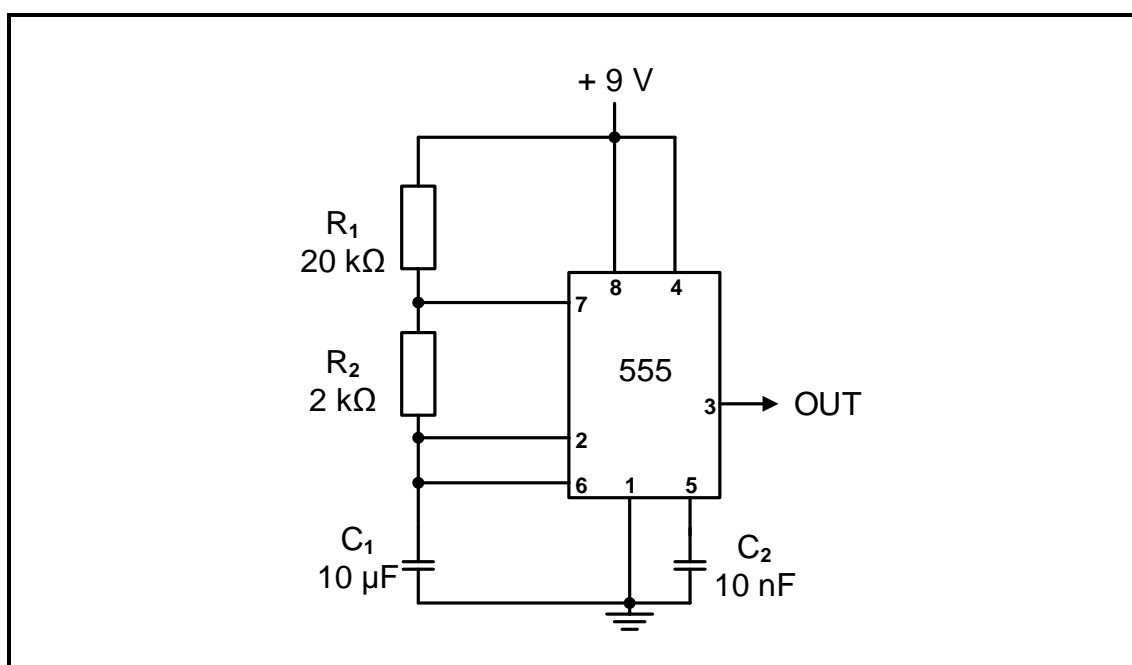

FIGURE 2.4: MULTIVIBRATOR
- 2.4 Refer to FIGURE 2.4 below and answer the questions that follow.
- 2.4.1 Identify the multivibrator in FIGURE 2.4 above. (1)